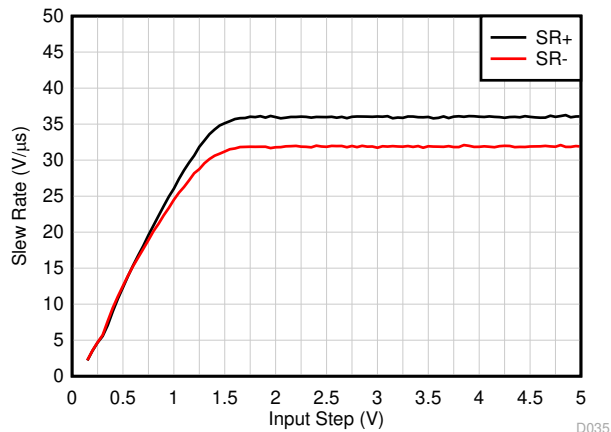

图 6-11. Slew Rate vs Input Step Voltage
- (3) See Fig 6-11 for more information.